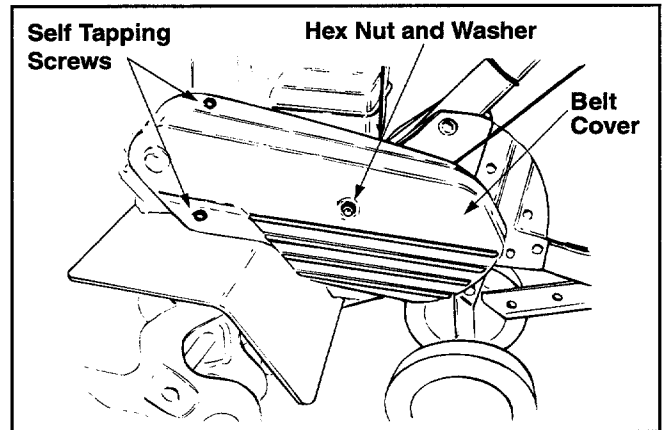

Figure 13
- Remove the belt cover from the left side of the tiller by removing two self tapping screws and flat washers from the front of belt cover. See Figure 13.